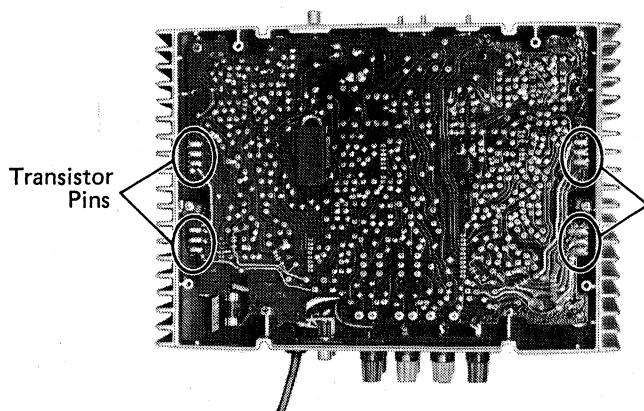

Figure 5.
3. Unsolder 12 pins of Transistors (Q617, Q618, Q619, Q620) from the Main P.C. Board. See figure 5.